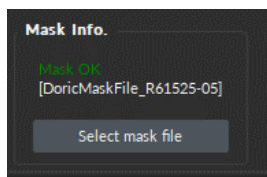

Figure 7.27: Mask correctly added
3. Once the file is selected, the following message will be displayed in the **Mask Info.** box above the **Select Mask File** button: **Loading Masks** and then **Mask OK** (Fig. 7.27). This is replaced by **Masks Loaded** once loading is complete.